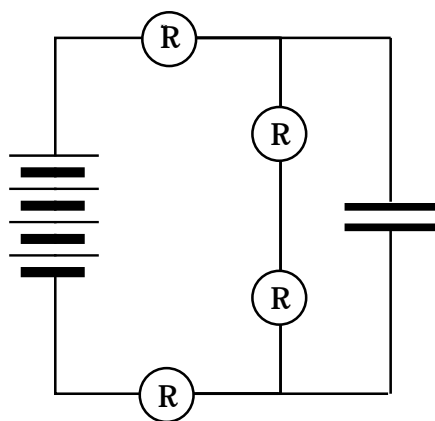

Figure 5.3a
1. Show the final condition of the circuit on Figure 5.3a below by drawing starbursts, arrowtails, wire colors and (if appropriate) +/- symbols on the capacitor plates.